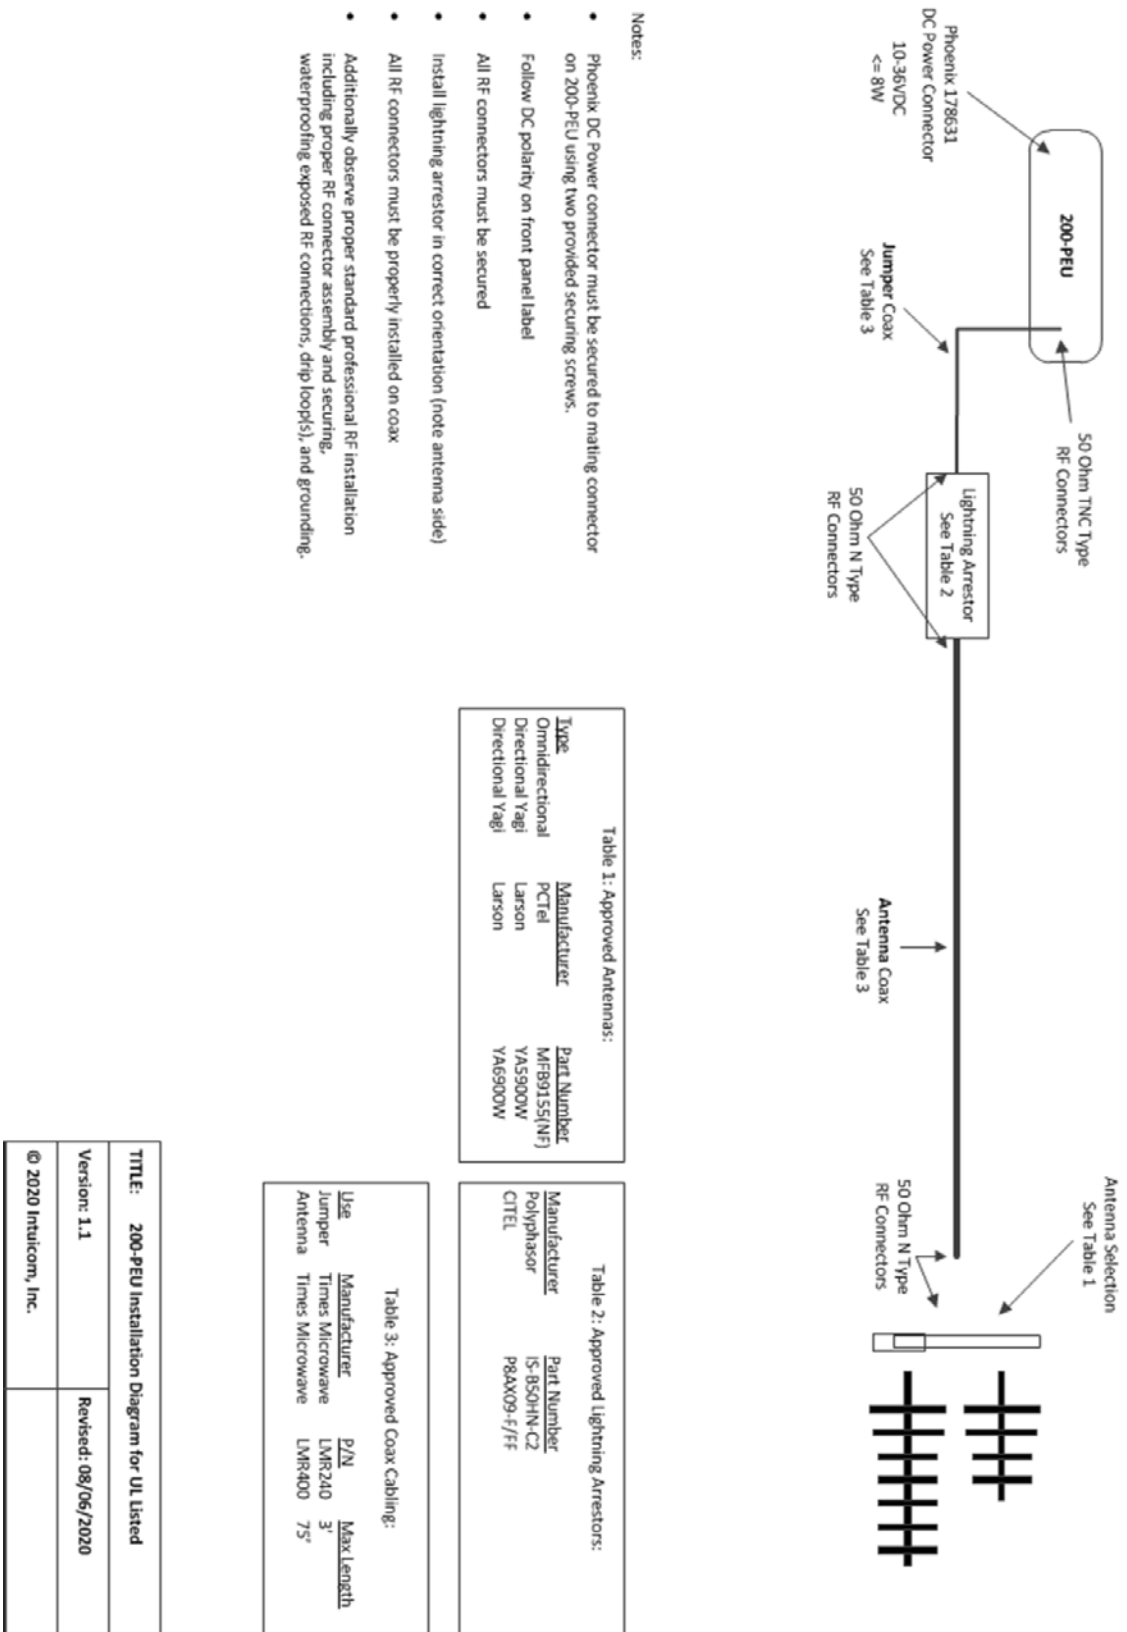

Figure 1: Installation Diagram
- The 200-PEU is approved with installation of the following antennas and lightning arrestors and in accordance with the 200-PEU Installation Diagram v1.1 (Figure 1):